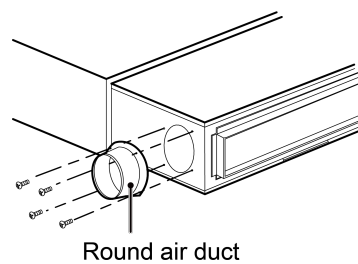

Fig 4.4.8
- (2) Install the round flange so that the fresh air duct can be connected as Fig 4.4.8.
- (3) Sealing and heat preservation should be done for both the air pipe and round flange pipe.
- (4) Fresh air should be treated via the air filter.